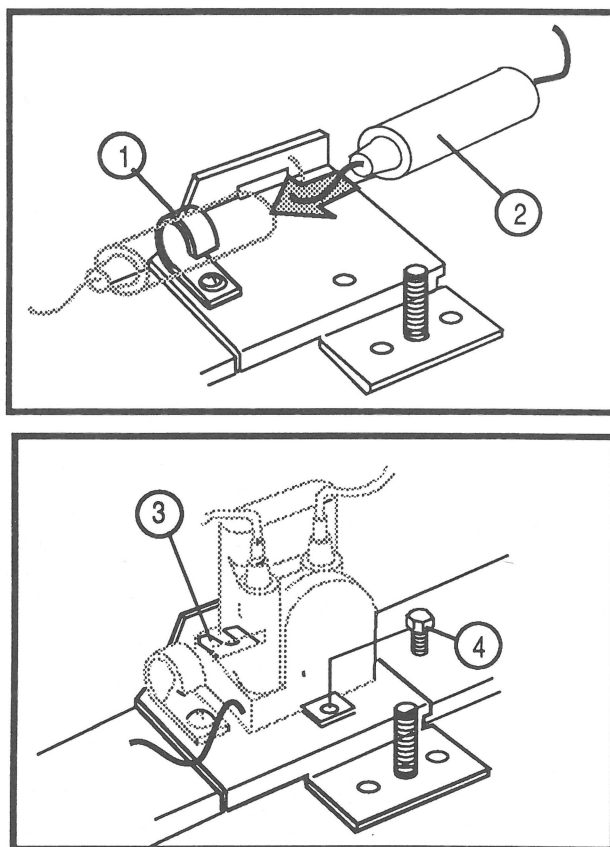

FIGURE 21
4. If the bleeder resistor is cigar shaped, install the bleeder resistor in the plastic clip on the metal bleeder resistor bracket. Pull up slightly on the clip (Figure 21, #1) and slide the resistor (Figure 21, #2) sideways until the clip is fastened securely around the middle of the resistor.
If the bleeder resistor is box shaped, place the bleeder resistor on the metal bracket so that one end slides out the rectangular hole in the rear of the metal bracket (Figure 21, #3). (Be sure that the wires going to the logic board are on your left and the anode wire is on your right.) Replace the screw that holds the bleeder resistor in place (Figure 21, #4).